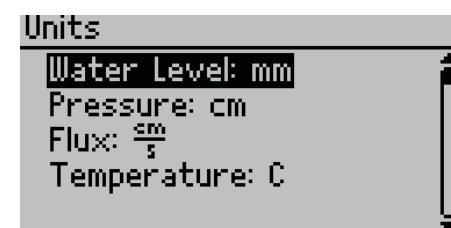

Figure 22 Editing Units options
- **Units.** Edit the preferred units on all device screens and the units that appear in downloaded data (Figure 22). Select the Units option in the Configuration tab. Press **Enter** to cycle through the available options on the highlighted measurement. Press **BACK** to return to the previous menu.